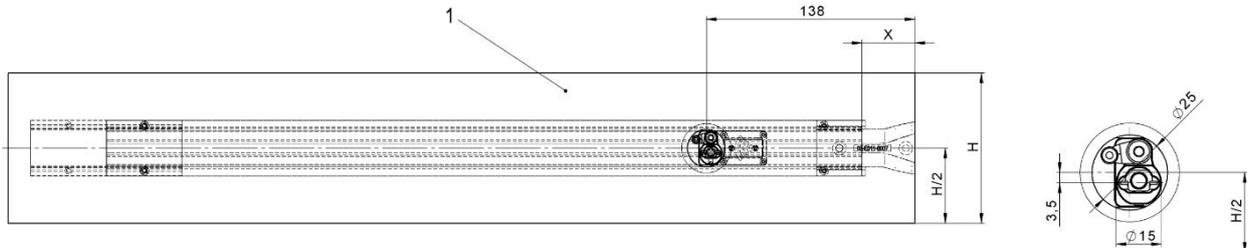
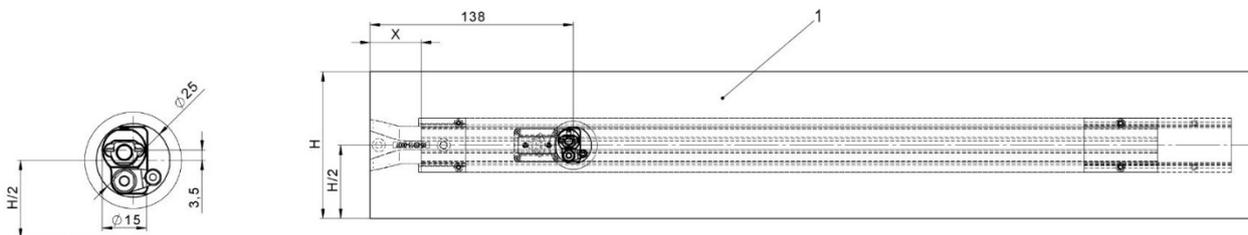

Fig. 46: Support structure (substructure) (1) with line feed (plastic cap, right)
Fig. 49: Support structure (substructure) (1) with line feed (aluminium cap, left)
- Determine the position of the through hole for the line feed in the support structure (substructure) according to Fig. 44 to Fig. 49 centered on the slot of the data rail. **ATTENTION:** The stationary antenna is located outside (below or above) the center (see Fig. 46 to Fig. 49).
- Insert the line feed (1) into the hanger clamps (2). Ensure that the hanger clamp grips the rail correctly. The hanger clamps are elastic and thus allow easy insertion/locking of the rail into the hanger clamp. The rails can be moved in the hanger clamps.